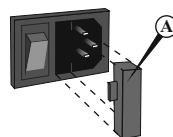

Fig.2 Fuse replacement
*Replacement of fuses.* Disconnect the unit from the mains outlet. Remove the power plug from the rear of the unit. Pull out the fuse drawer by applying leverage in recess (Fig.2/A). Remove the fuse from the holder. Check and replace with the correct fuse if necessary (3,15 A for 100–240 V, 50/60 Hz).